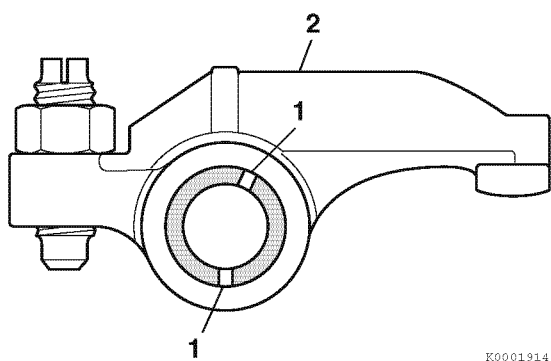

Figure 6-35
Ensure the lubrication holes (Figure 6-35, (1)) in the rocker arm shaft are oriented correctly with respect to the rocker arms (Figure 6-35, (2)).